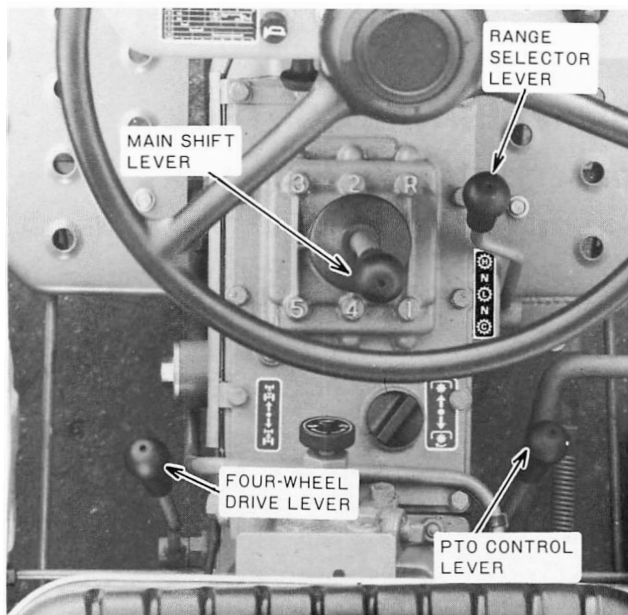

Figure 9 – Transmission and P.T.O. Controls
The transmission main shift lever and range selector lever are shown in Figure 9. A diagram showing the shift pattern is cast into the transmission cover.
A creeper range accessory with a 5.5:1 ratio is available which provides an additional 5 forward and 1 reverse speeds or a total of 15 forward and 3 reverse speeds. The control is located on the right side of transmission housing as part of the range selector lever. Moving the lever full rearward past low range (L) engages the creeper range (C), Figure 9.
The shift lever for the four-wheel drive is located on the top left-hand front of the rear-axle center housing, Figure 9.
The transmission P.T.O. control lever is shown in Figure 9. The lever engages and disengages the P.T.O. If the tractor engine is running, always depress the clutch pedal fully before moving the lever. Move the lever rearward or up to engage the P.T.O. and forward or down to disengage the P.T.O.